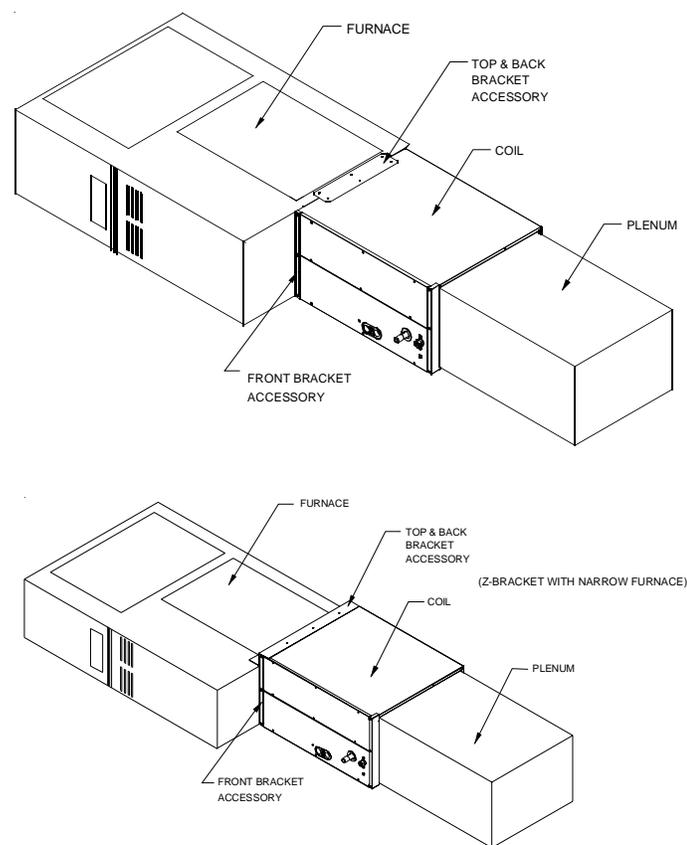

Figure 3
furnace when the furnace is one size smaller than the coil (i.e. coil height = 17.5-inches and furnace width = 14-inches) (See figure 3).
3. Using the hardware and brackets provided, attach the coil to the furnace then attach the plenum to the coil (Figure 3).